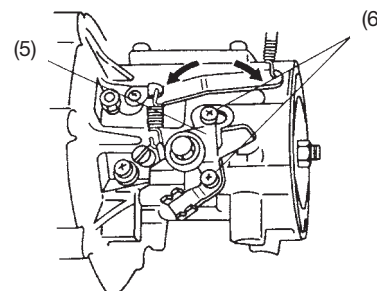

Fig. 12C
- 2) To adjust governor, loosen screws (6) which holds control lever assembly (5) to crankcase and move the assembly left or right to obtain the maximum speed of 6500 rpm (Moving control lever assembly to left gives higher rpm and moving to right, lower rpm) (Fig. 12C)